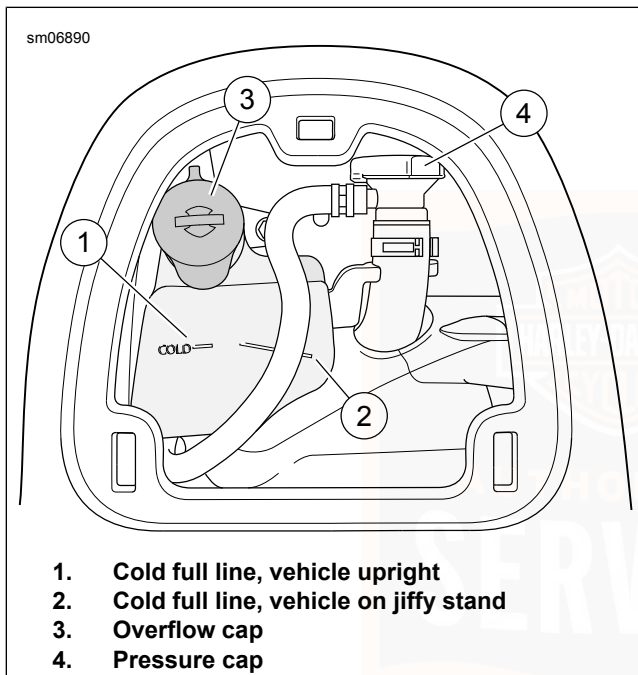

Figure 73. Coolant Level
See Figure 73. The coolant bottle has two lines. Use the angled line (2) when the motorcycle is leaning on the jiffy stand.
2. See Figure 73. Check that coolant level in coolant bottle is at or slightly above the "COLD" line (1).